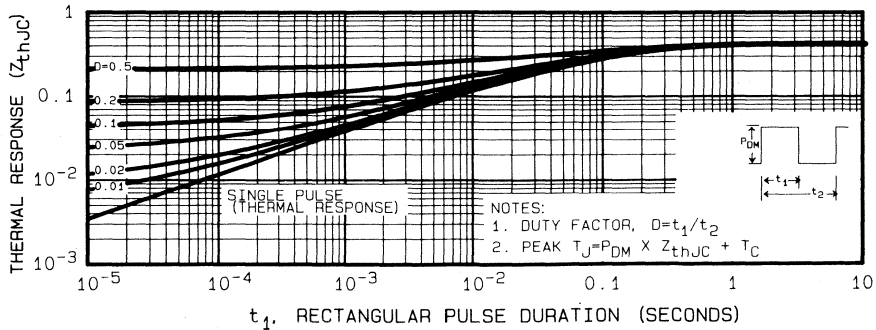

Fig. 5 - Maximum effective transient thermal impedance, junction-to-case vs. pulse duration.
① Repetitive Rating; Pulse width limited by maximum junction temperature (see figure 5)